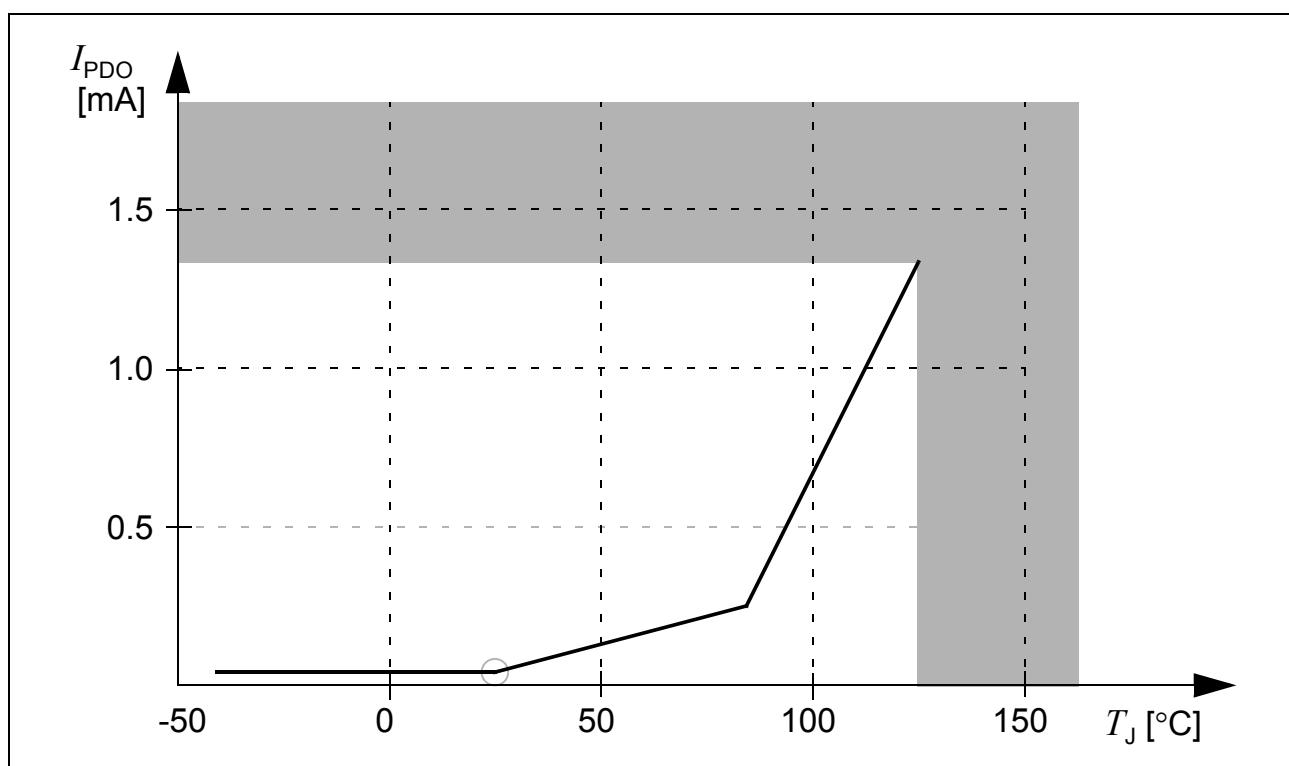

Figure 13 Sleep and Power Down Leakage Supply Current as a Function of Temperature
- 5) This parameter is determined mainly by the transistor leakage currents. This current heavily depends on the junction temperature (see Figure 13). The junction temperature T_J is the same as the ambient temperature T_A if no current flows through the port output drivers. Otherwise, the resulting temperature difference must be taken into account.